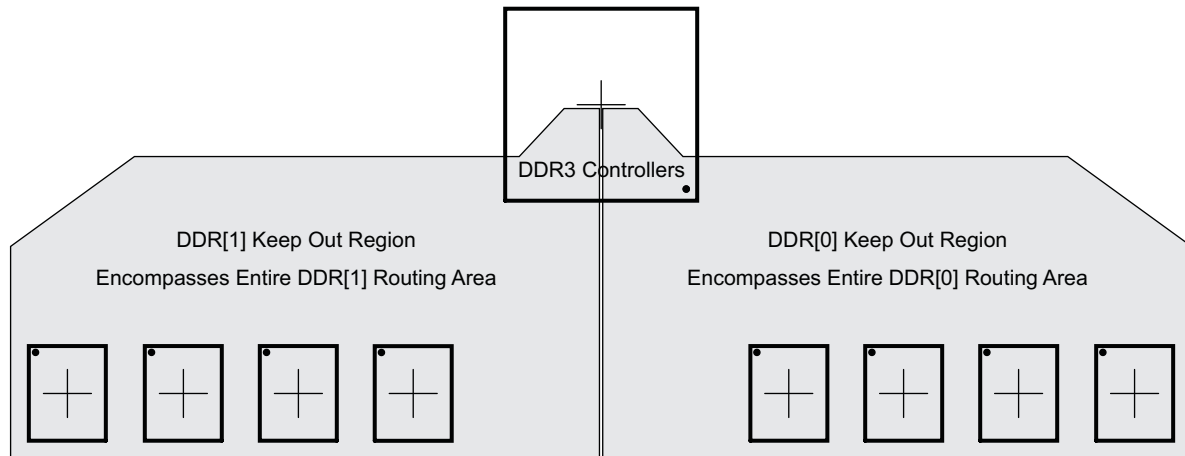

Figure 9-57. DDR3 Keepout Region
(2) Measurements from center of processor to center of DDR3 device.
(3) Minimizing X1 and Y improves timing margins.
(4) w is defined as the signal trace width.
(5) Non-DDR3 signals allowed within DDR3 keepout region provided they are separated from DDR3 routing layers by a ground plane.
(6) If a device has more than one DDR controller, the signals from the other controller(s) are considered non-DDR3 and should be separated by this specification.
The region of the PCB used for DDR3 circuitry must be isolated from other signals. The DDR3 keepout region is defined for this purpose and is shown in Figure 9-57. The size of this region varies with the placement and DDR routing. Additional clearances required for the keepout region are shown in Table 9-70. Non-DDR3 signals should not be routed on the DDR signal layers within the DDR3 keepout region. Non-DDR3 signals may be routed in the region, provided they are routed on layers separated from the DDR signal layers by a ground layer. No breaks should be allowed in the reference ground layers in this region. In addition, the 1.5-V DDR3 power plane should cover the entire keepout region. Also note that if there is more than one DDR controller, the signals from each controller need to be separated from each other by the specification in Table 9-70, item 5. Each DDR controller should have its own DDR keepout region.
Figure 9-57 is an example of a processor with two DDR controllers. Processors with a single DDR controller will have only one DDR keepout region. Each DDR controller should have its own keepout region.